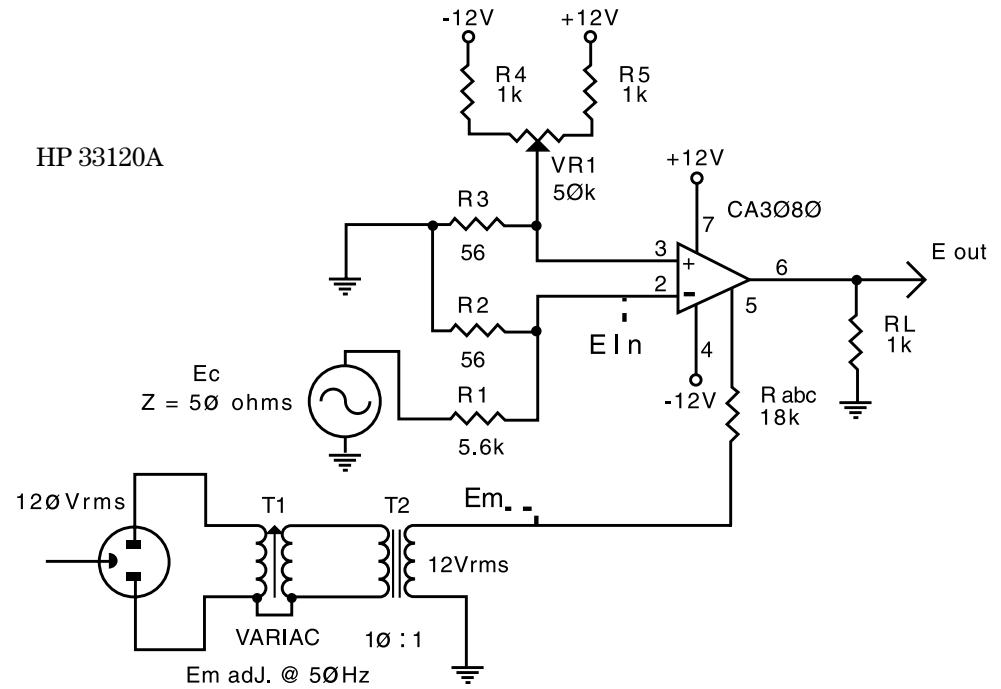

FIGURE 4
The set-up diagram to be used on the circuit from part 3 that will generate the trapezoidal patterns is shown in figure 4. The X and Y mode inputs on the oscilloscope will be used for producing the trapezoidal patterns. With the X-Y mode, the E_m signal is applied to the X input and the modulated envelope, from E_{out} , is applied to the Y input.
1. Using the circuit from part 3, connect the oscilloscope as shown in figure 4.